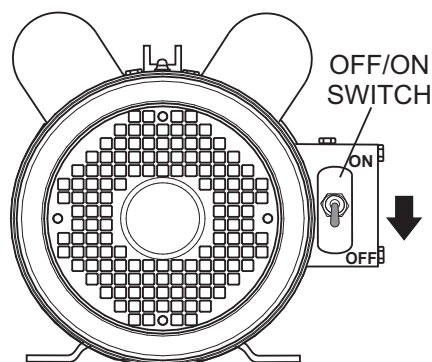

Figure 35. Electric Motor ON/OFF Switch (OFF)
1. To turn off the electric motor (Figure 35), place the ON/OFF switch in the **OFF** position.